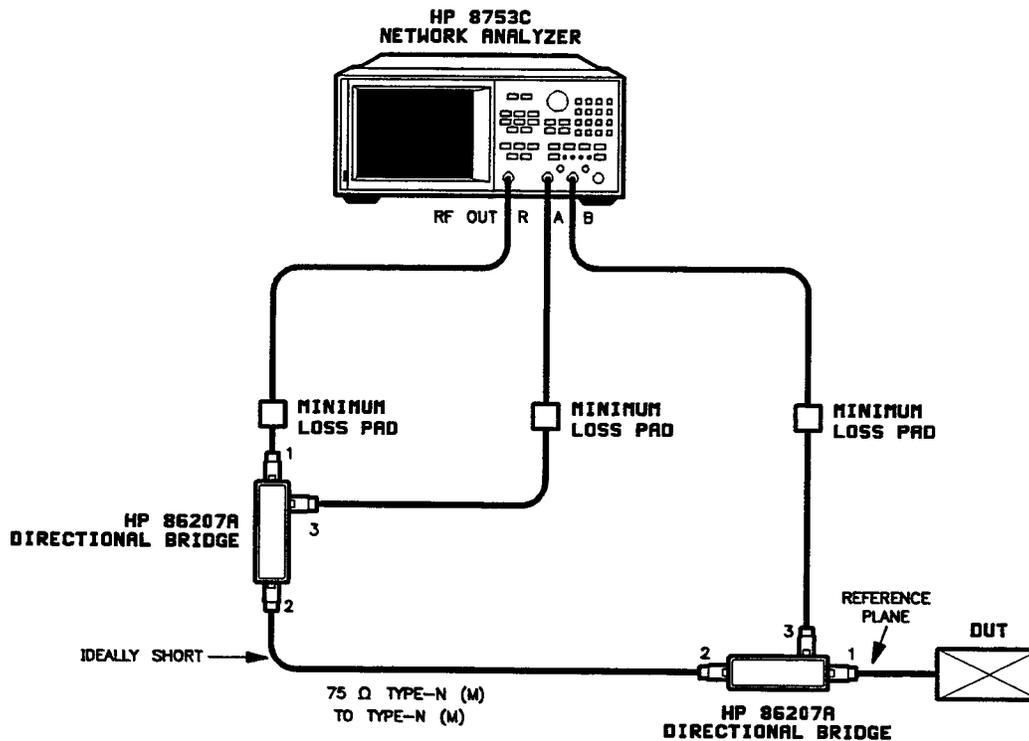

Figure 2-4. Vector Impedance Measurement Setup
- Connect the equipment as shown in Figure 2-4